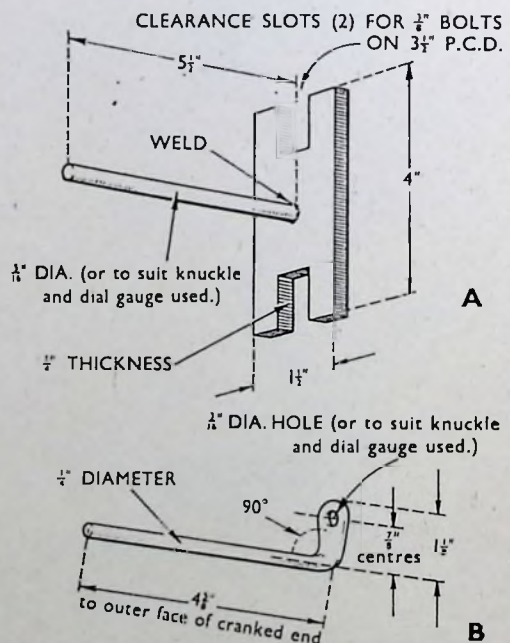

FIG. 78.—Dial gauge fittings.
- Mount on the crankshaft flange a dial gauge stand of the type depicted at "A" in Fig. 78.